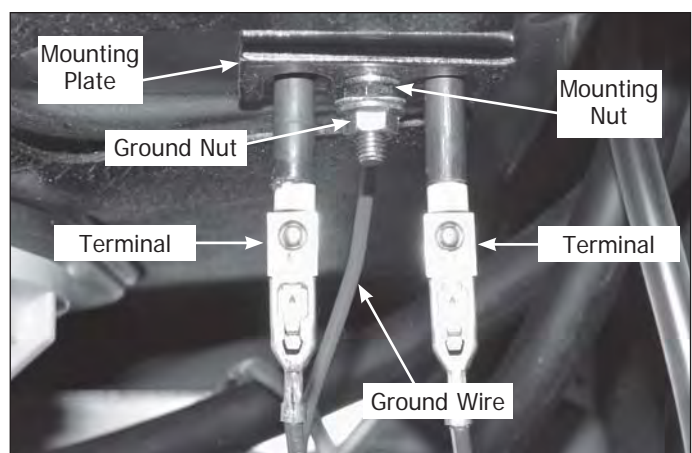

Figure 4-24.
8. Disconnect wire leads from the heater terminals. Terminals have locks, press down on lock to remove terminal. (See Figure 4-24)